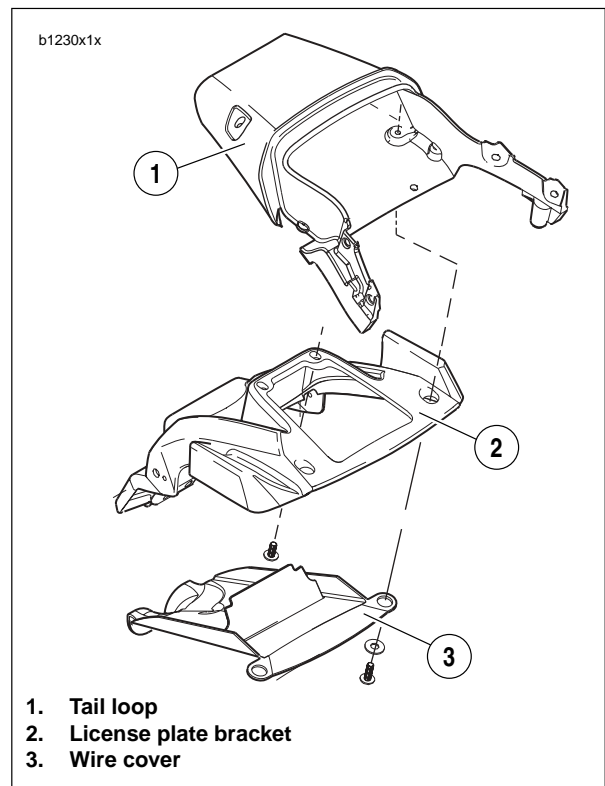

Figure 2-129. Wire Cover/Tail Loop/License Plate Bracket
3. See Figure 2-129. Remove two fasteners securing trunk pan to center tail loop (1).
5. See Figure 2-129. Remove wire cover (3) on bottom side of license plate bracket (2) in order to access wires.
7. Remove two fasteners (10) securing trunk pan to center tail loop.